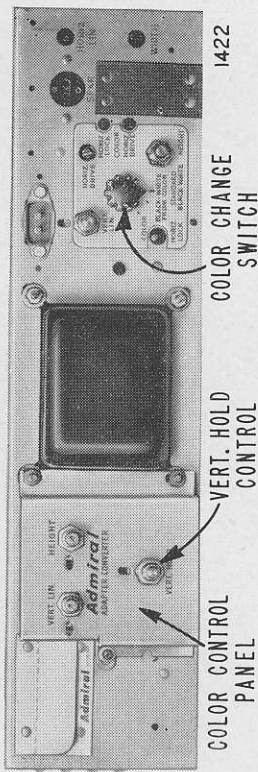

Figure 1. Rear View of TV Chassis Showing Color Change Switch and Vert. Hold Control.
The only additional controls you will need to use are the Color Change Switch and, on occasion, the VERT. HOLD control on the color control panel. Both of these controls are at the rear of the chassis; see figure 1. All other controls at the rear of the chassis are preset at the time of installation and generally require no further adjustment when switching from one type of picture to another.
COLOR CHANGE SWITCH: This control is located at the rear of the TV chassis; see figure 1.
VERT. HOLD: This control is located on the color control panel at the rear of the chassis; see figure 1. It is used to stop up and down motion of the picture when receiving black and white pictures from color signals, or when receiving color pictures.
3. Tune the set as you normally would, following the operating instructions included with the receiver, using the TUNING, PICTURE, and other front panel controls with the exception of the VERTICAL control. If the picture moves up or down, adjust the VERT. HOLD control (on the color control panel at the rear of the chassis; see figure 1) until the picture becomes stationary.